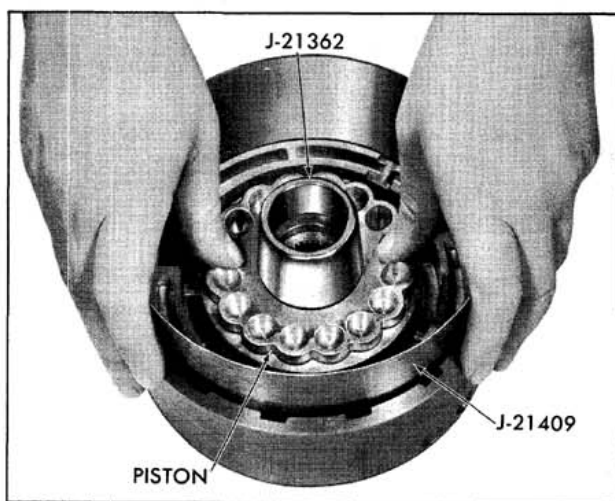

Fig. 6-141 Installing Clutch Piston
3. Place Seal Protector Tool J-21362 over clutch hub and install outer clutch piston Seal Protector J-21409, into clutch drum and install piston, rotating piston on drum until seated. (Fig. 6-141)